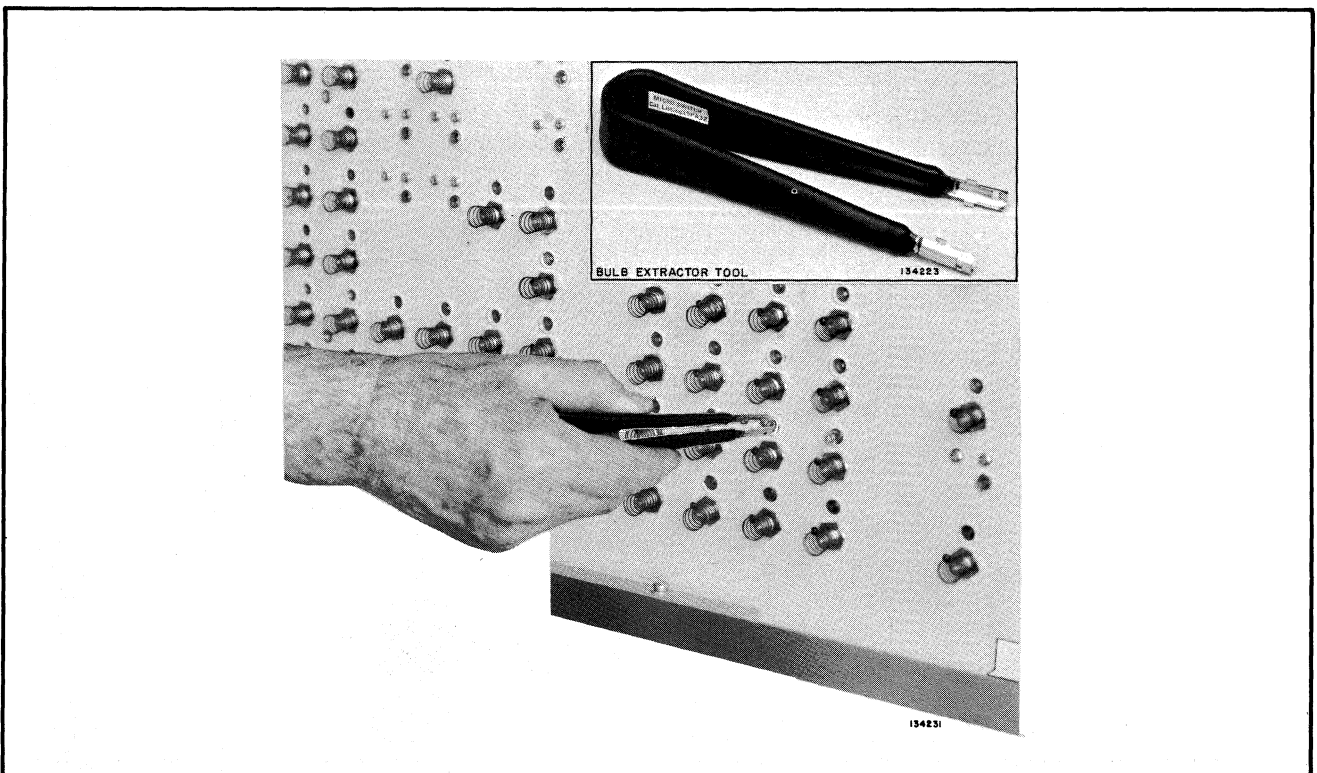

Figure 20. Light Bulb Replacement
2. Using a Bulb Extractor tool, carefully grasp the envelope of the defective bulb and with moderate pressure remove bulb from its socket. (See Figure 20.)